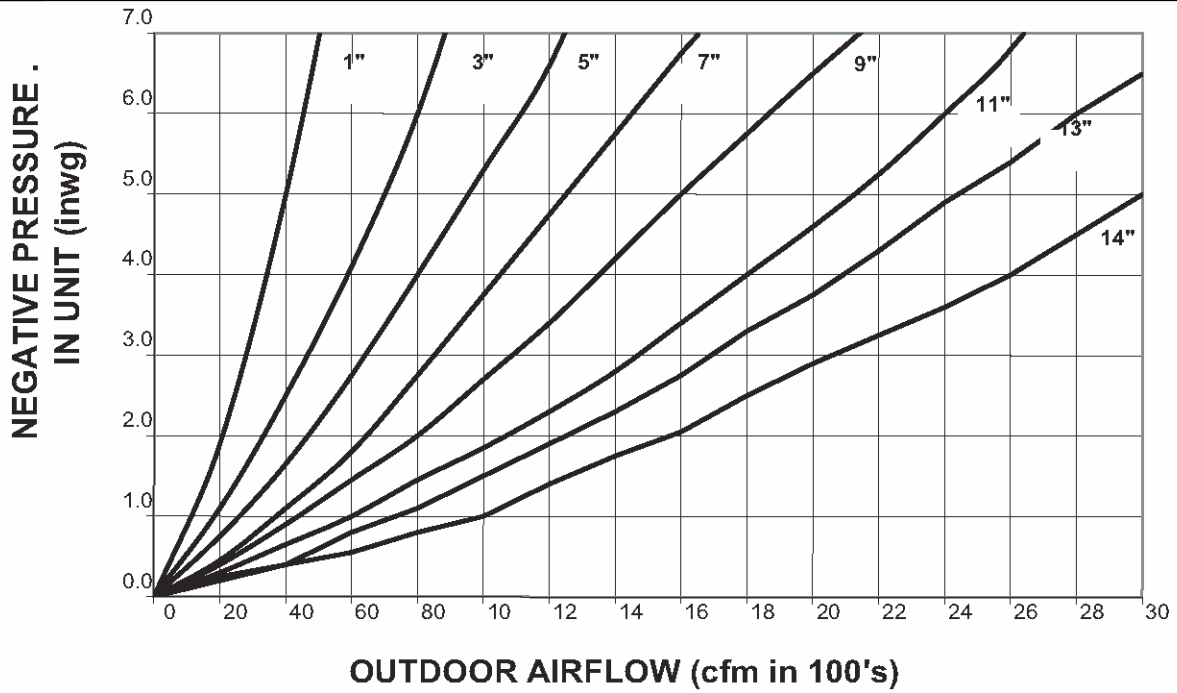

Figure 6
6. Attach assembled hood with seal strips to the damper panel. (See Fig. 6.) Use screws provided.